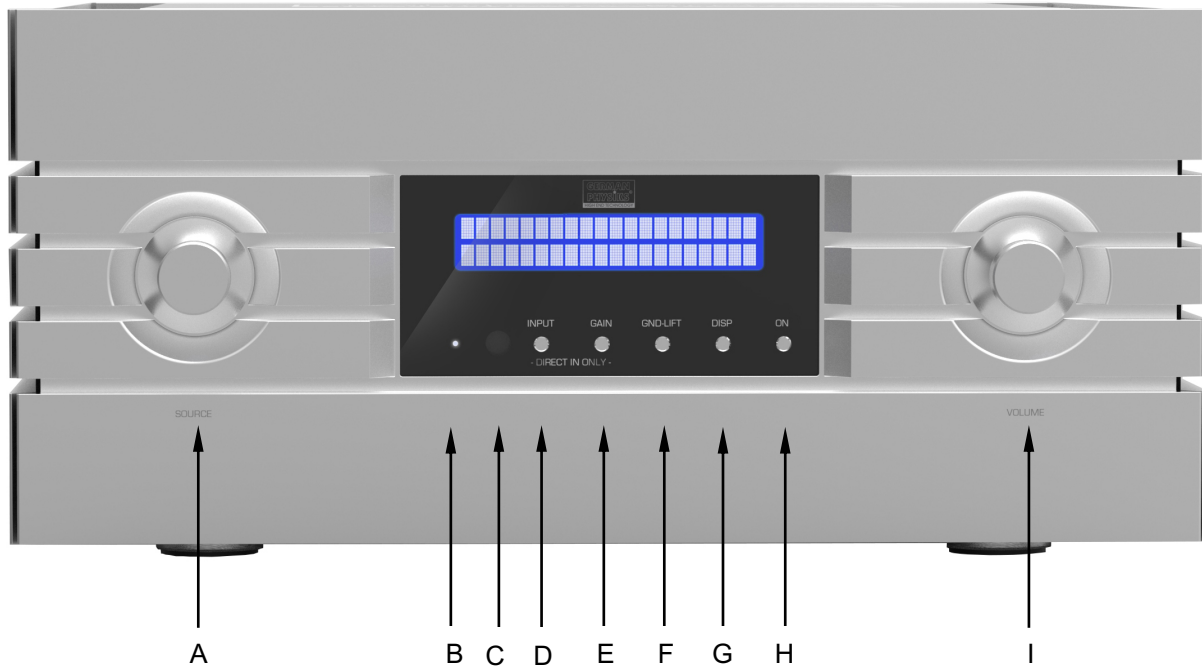
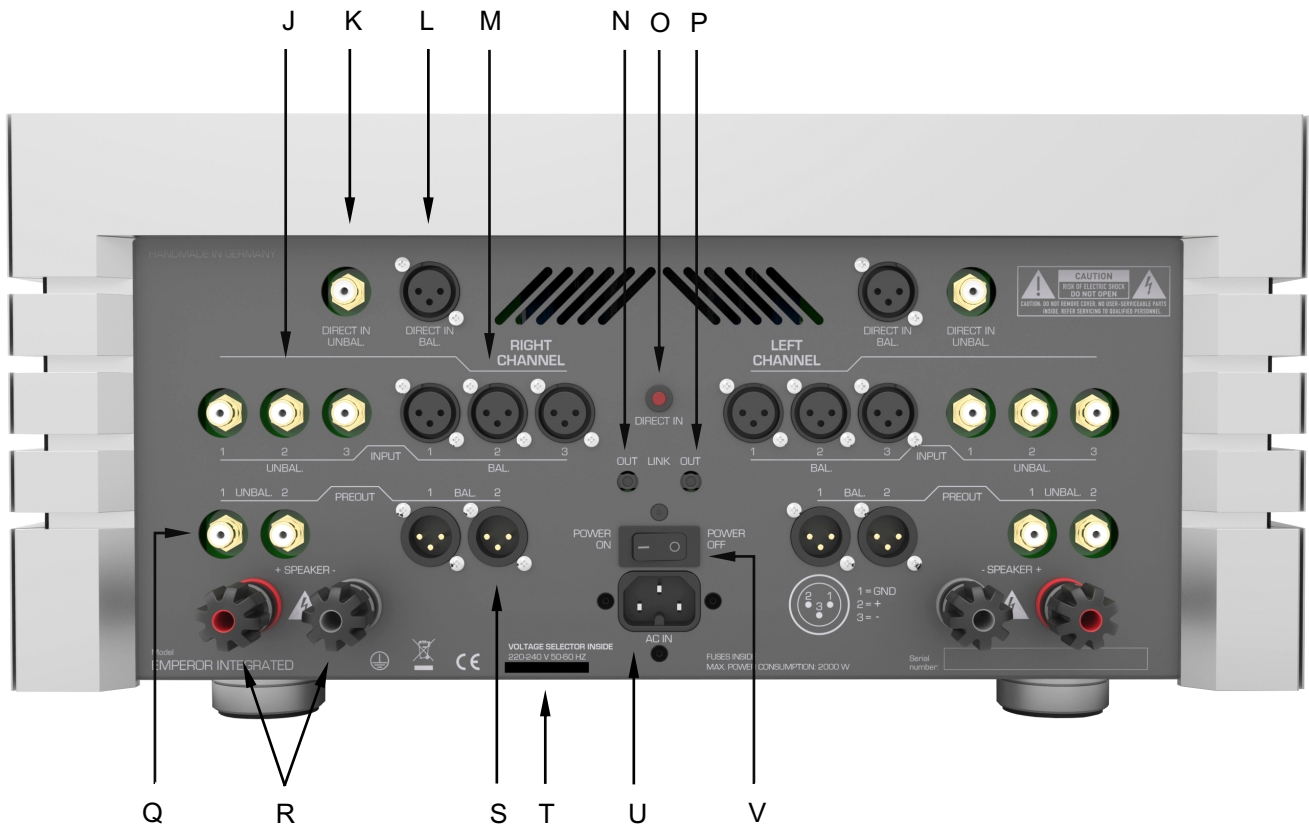

Figure 2. Emperor Integrated Amplifier front panel.
Figure 3. Emperor Integrated Amplifier rear panel.
V. **Power switch:** This is the main power switch. When installing the unit, this should be in the off position as shown in figure 3.
2. Connect right channel output of your main source to either, one of the amplifier's right channel unbalanced inputs (figure 3, J), or one of its right channel balanced inputs (figure 3, M). Where possible, we recommend that you use the balanced inputs for your main sources, as this will usually produce superior results.
3. Connect the right channel loudspeaker cables to the amplifier's right channel loudspeaker terminals, figure 3, R.
5. Confirm that the rear panel power switch, figure 3, V, is in the off position, then connect the power cable to the rear panel power inlet, figure 3, U, ensuring that it has been pushed fully home. Plug the other end into the power outlet on the wall, or the power extension block that you are using. If this has a switch, switch this on.
6. Switch on the power switch on the amplifier's rear panel, figure 3, V. The front panel power indicator, figure 2, B should come on. The unit is now in standby mode. **Do not switch it on yet.**
7. If you wish to use the **Gain** control on the amplifier's front panel, figure 2, E, so that the amplifier's gain can be adjusted, you will need to fit the two short, balanced jumper cables supplied with the unit. Otherwise go to step 10.
8. Fit one of the balanced jumper cables supplied with the unit between the right channel preamplifier section balanced output, figure 3, S, and the right channel power amplifier section balanced input, figure 3, L.
10. Switch the amplifier on by pressing the front panel **On** button, figure 2, H. Allow 30 seconds for the amplifier to stabilise.
11. Rotate the **Volume** control, figure 2, I, anti-clockwise and set the volume to minimum.
If the display shows DIRECT IN OFF, press the rear panel **Direct In** button, figure 3, O. This will light up to show that the Direct In mode has been selected. The front panel display will also show DIRECT IN ON.
14. If the front panel display shows EXTERN INPUT XLR, then the power amplifier section XLR inputs are already selected and you can go to the next step. Otherwise, press the front panel **Input** button, figure 2, D, so that the display shows EXTERN INPUT XLR
15. Rotate the **Source** control, figure 2, A, to select the input connected to the source that you are going to use.
Press the **Gain** button, figure 2, E, on the amplifier's front panel once. The display will show the word **GAIN** for about 3 seconds, followed by the current gain setting in dB and the voicing of that setting. Press the **GAIN** button again as necessary until the gain is set to 0dB.
3. Connect right channel output of your main source to either, one of the amplifier's right channel unbalanced inputs (figure 3, J), or one of its right channel balanced inputs (figure 3, M). Where possible, we recommend that you use the balanced inputs for your main sources, as this will usually produce superior results.
4. Connect loudspeaker cables between the right channel high-frequency crossover input and the amplifier's right channel loudspeaker terminals, figure 3, R.
6. Connect the amplifier's right channel preamplifier section outputs, figure 3 Q or S, to the right channel inputs of the other power amplifiers. We recommend that you use the balanced outputs.
12. Switch on the power switch on the integrated amplifier's rear panel, figure 3, V. The front panel power indicator, figure 2, B should come on. The unit is now in standby mode. **Do not switch it on yet.**
14. Fit one of the balanced jumper cables supplied with the unit between the right channel preamplifier section balanced output, figure 3, S, and the right channel power amplifier section balanced input, figure 3, L.